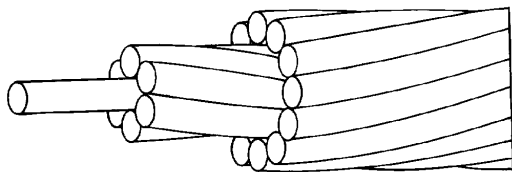

Figure 4. True Concentric and Equilay Stranding
(3). True Concentric Stranding is composed of a central wire surrounded by one or more layers of helically laid wires, with a reversed direction of lay, and an increased length of lay, for each successive layer (Figure 4).